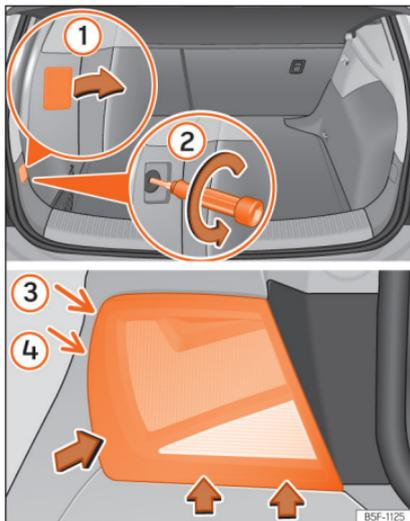

Fig. 115 Trunk: location of the bolt securing the tail light unit. Remove the rear light unit from side panel.
- Remove the cover by prying the flat side of a screwdriver into the recess and remove the cover from the opening » **Fig. 115** ①.
- Carefully loosen the screw located behind the cover with a screwdriver, turning it anti-clockwise (arrows) » **Fig. 115** ②.
- Tilt the light in the direction of the arrows until it comes out of its housing (positions ③ and ④) » **Fig. 115**.